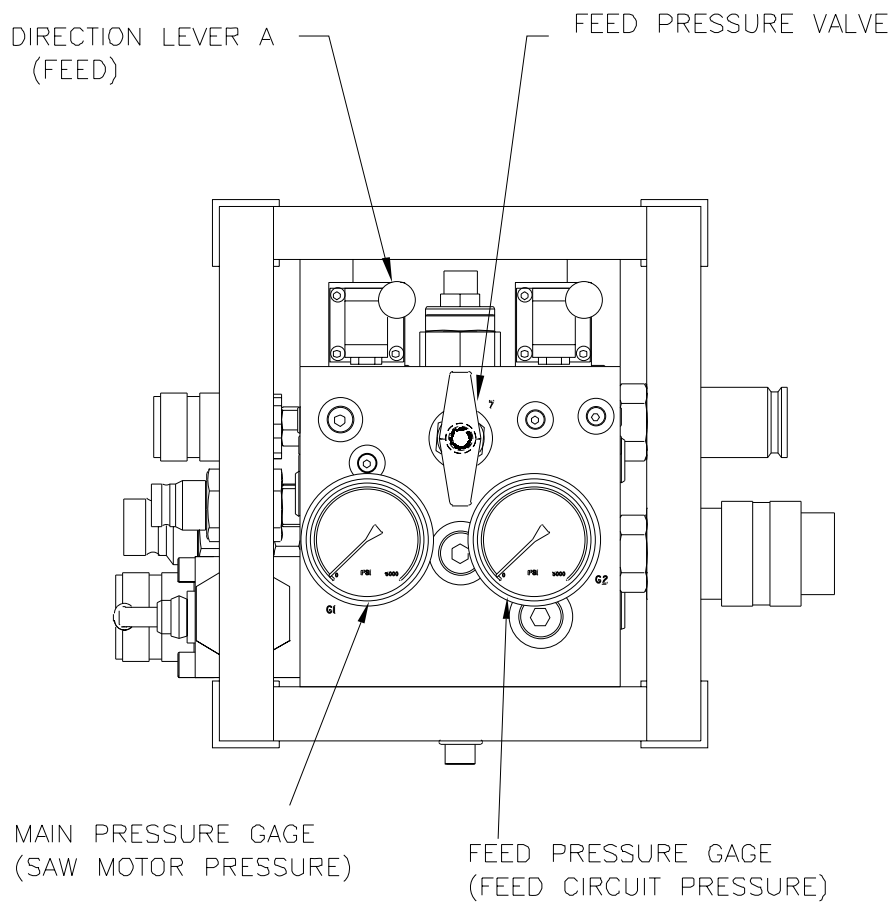

FIG. 10
- Screw out the travel pressure control knob (FIG. 10) of the BS-2/ BS control. The travel pressure valve is used to increase and decrease wire tension.
- Engage Direction Lever A (FIG. 10) so tension is set.